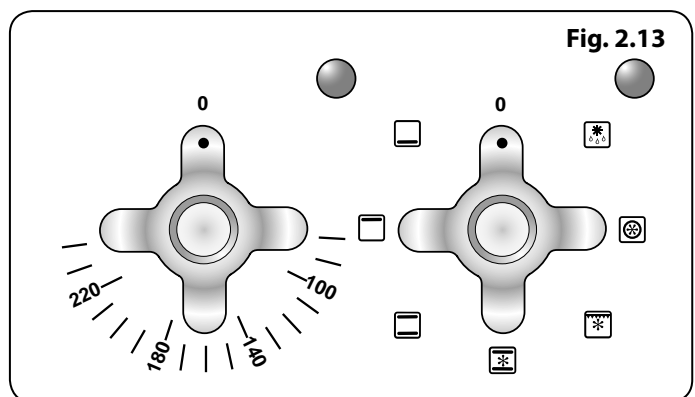

Fig. 2.13
1. The multi-function oven has two controls: a function selector and a temperature setting knob (**Fig. 2.13**).